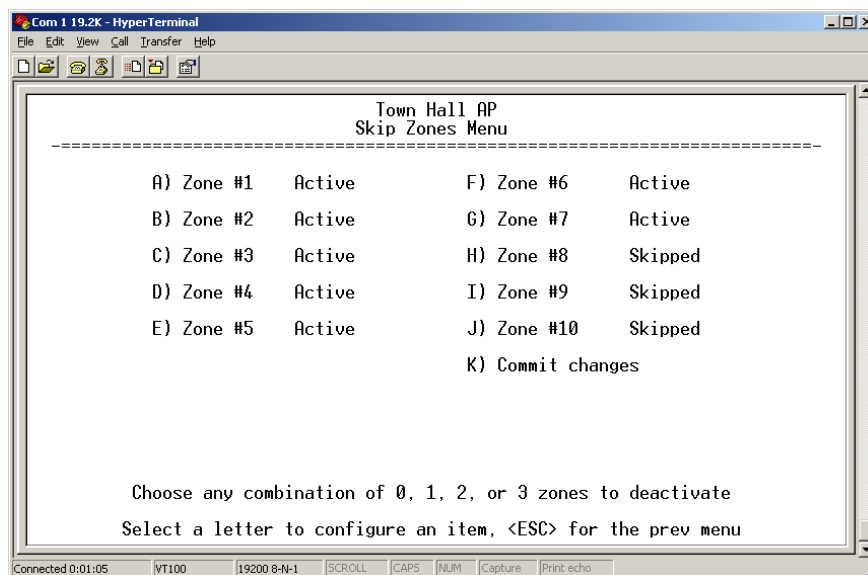

Figure 2-36. Skip Zone Options Submenu—MDS iNET Only
- **Skip Zones** (*Applies to iNET only. Editable at AP Only.*)—This selection brings up a submenu (Figure 2-36) that displays the current utilization of zones. Each zone consists of eight RF channels. In some instances there may be a part of the spectrum used by another system, that results in “continuous” or “persistent” interference to your system. To alleviate this form of interference, the transceiver may be programmed to “block out” affected portions of the spectrum using the Skip Zones Menu.
Figure 2-36 displays the utilization of 10 zones, each having eight RF operating frequencies. Zones can be toggled between **Active** and **Skipped** at Access Points by first keying in the letter of the zone to be changed, then pressing the spacebar to toggle between the two options for each zone. Select **Commit Changes** to implement changes. These changes are forwarded to all units in the network through the AP’s beacon signal.